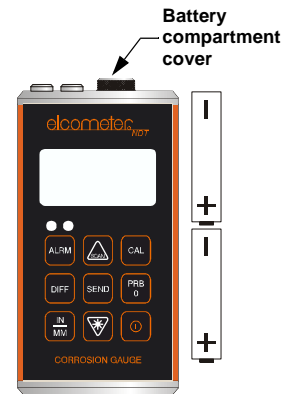

Figure 2. Fitting batteries
1. Locate battery compartment cover (Figure 2) at top of gauge.